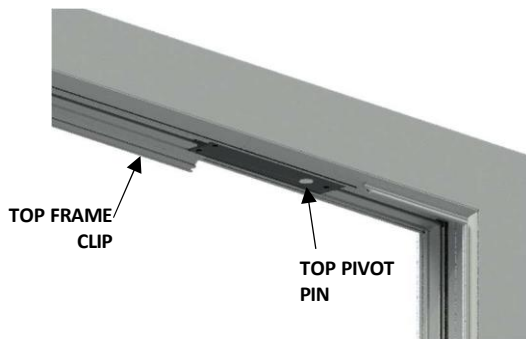

FIG. 9
1. Before installing the panel into the frame, pull-in the top pivot pin by rotating the slotted screw that is located by the pin. **(Fig.9)**
2. Remove #6-1" long Phillips flat head screws located on the top frame clip and on the top panel clip. Then, remove clips to avoid any damages to the clips during panel installation. **(Fig.9 & 10)**